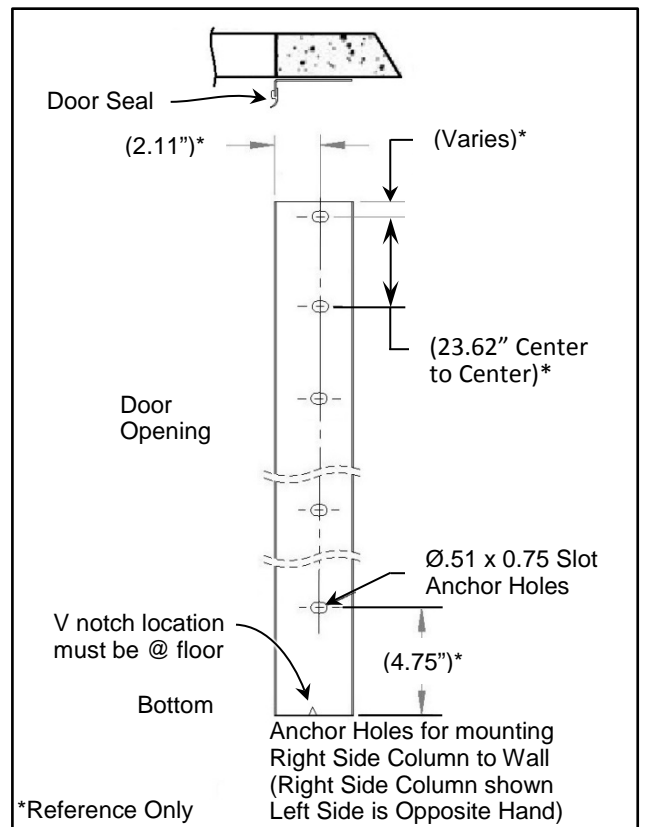

Figure 11
The side column and assembly have anchor holes for anchor mounting to the wall. The anchor holes are slotted to allow for adjustment. Use all of these for anchoring the Side Column Assembly to the wall. (See Figure 11)
1. To install the first side column, first locate & identify and match the specific side column required for the door side you want to install. (See Figure 11)